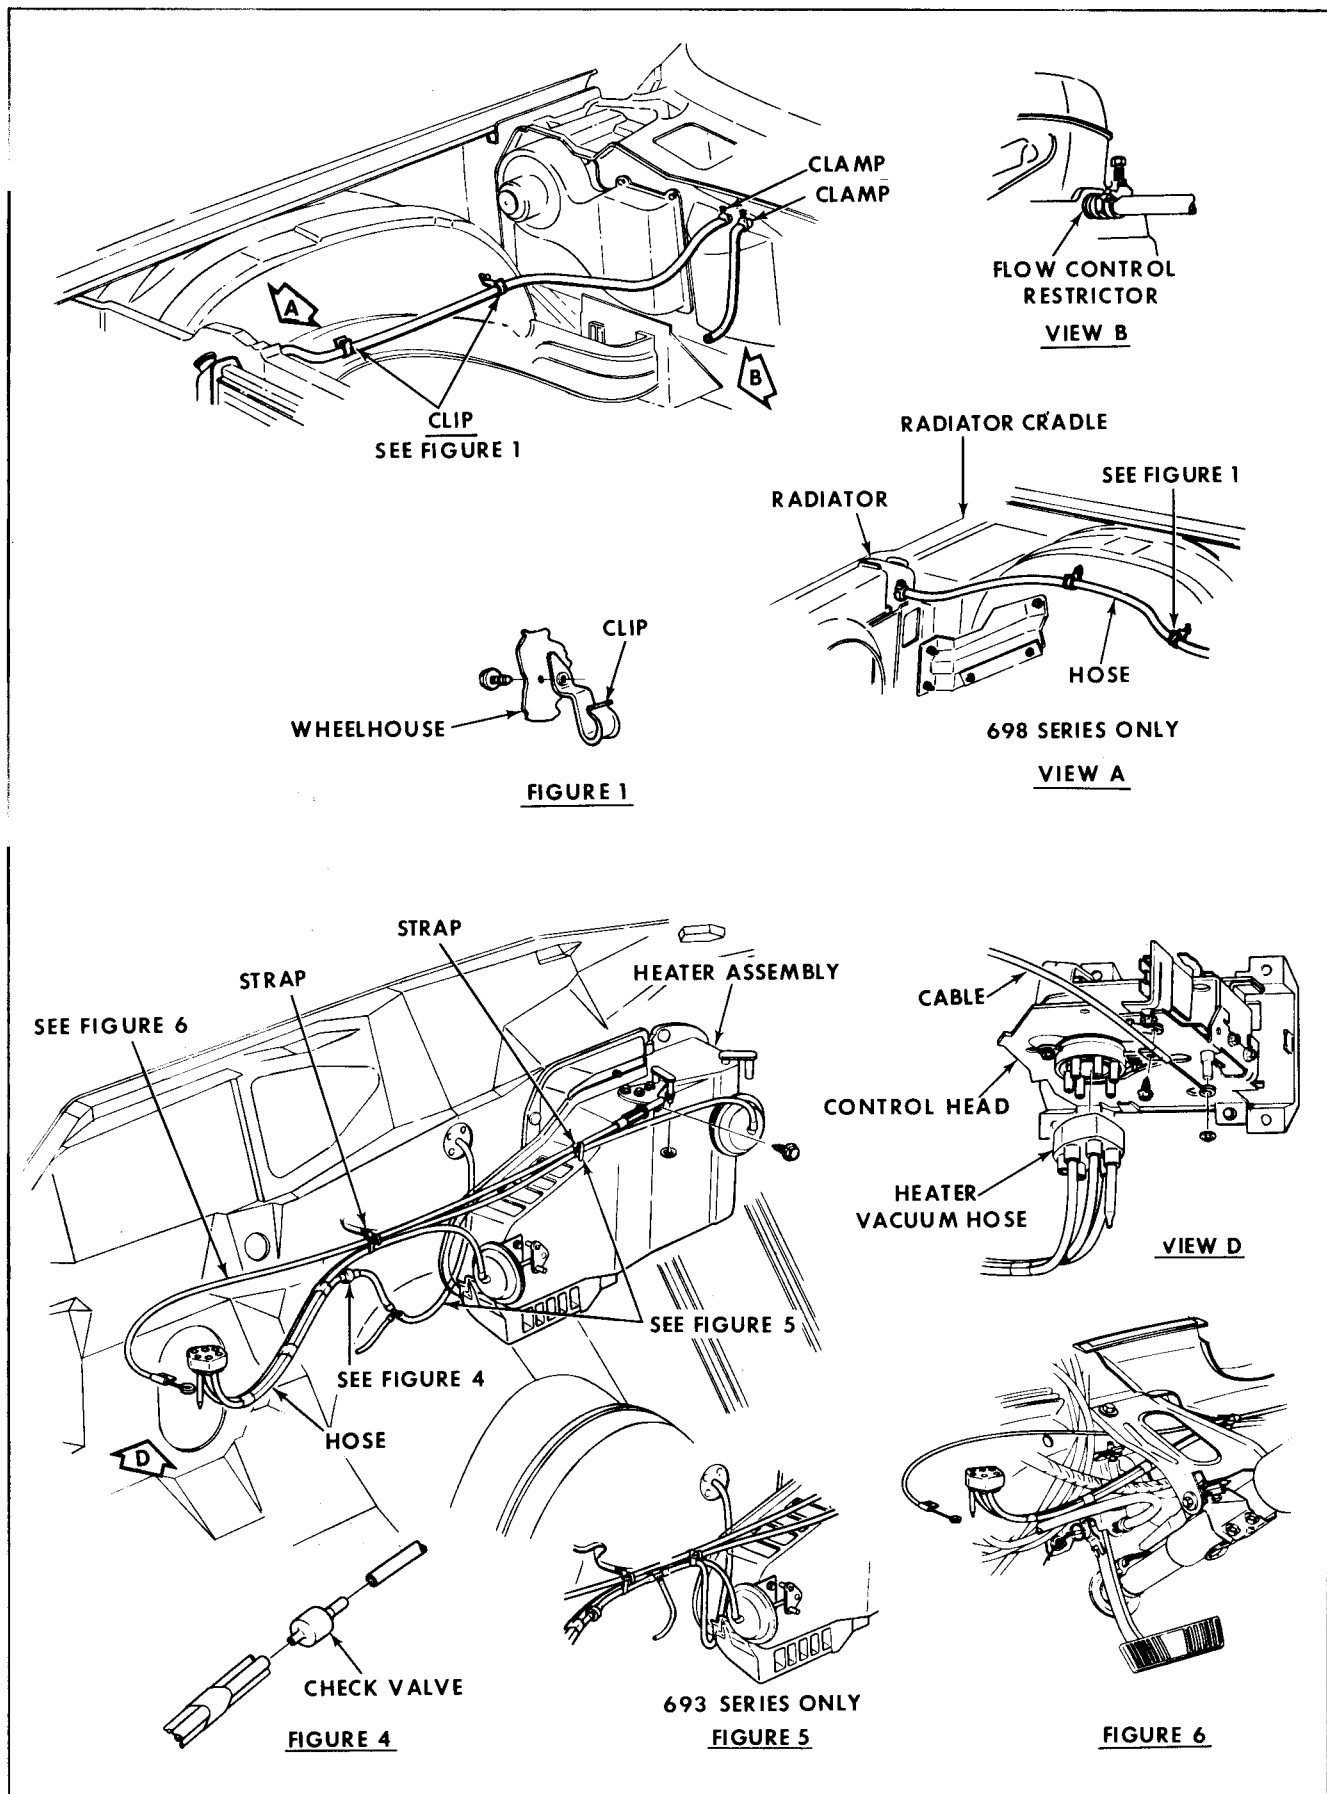

Fig. 1-124 Heater Vacuum Hoses and Cables
5. Remove vacuum hoses from diverter door and defroster door vacuum actuators, Fig. 1-124.